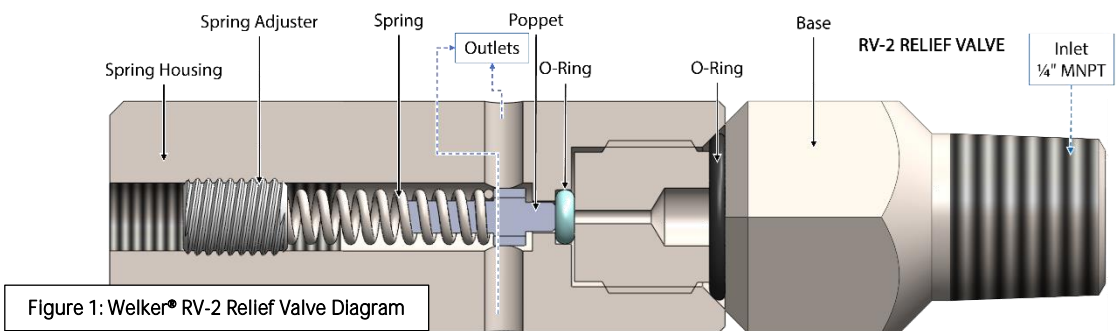

Figure 1: Welker® RV-2 Relief Valve Diagram
- Screw the spring adjuster (*Figure 1*) of the relief valve clockwise to fully close the relief valve.